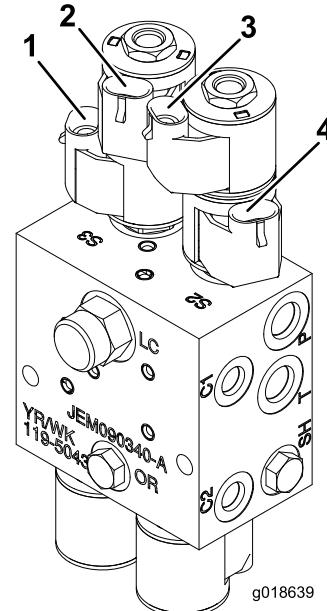

Figure 22
8. Connect the *Left Boom/Up*; *Left Boom/Down* connectors on the wiring harness to the solenoid valves on the hydraulic block (Figure 22).